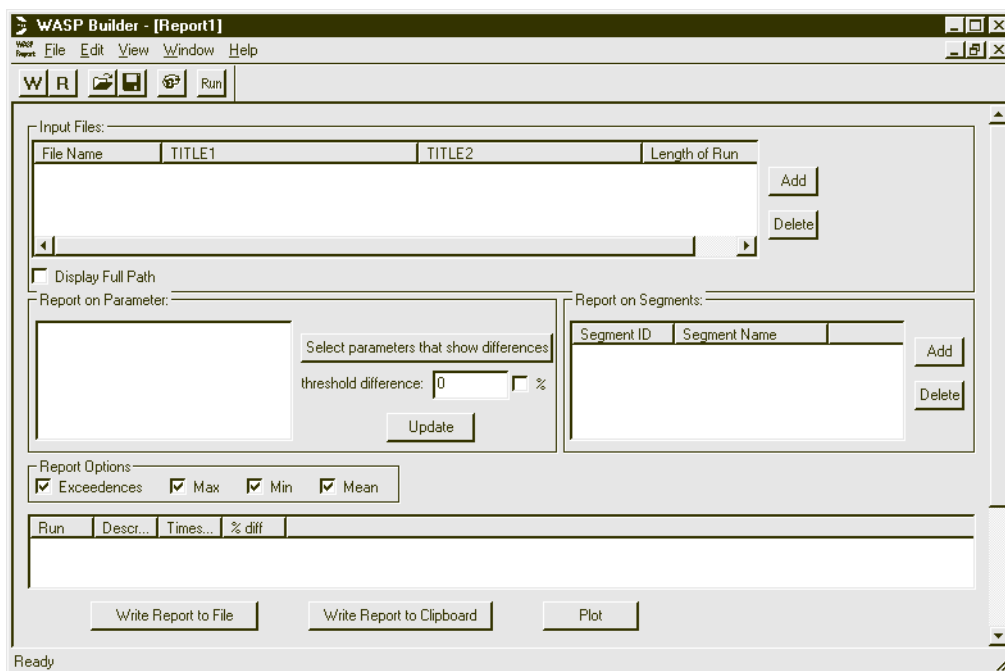

Figure 60: New Report Window
1. Select the **File > New Report** option, see *Figure 60*.